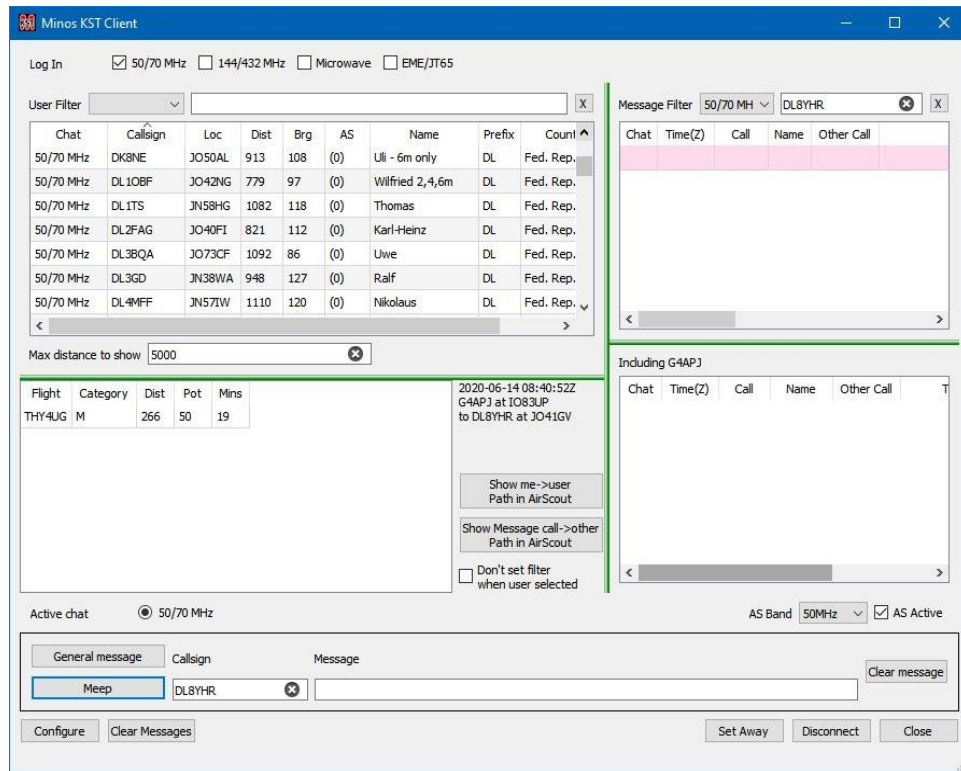

Figure 170 – Airscout operational in KST Client
Once the connection is established¹⁴⁴ additional information (AS) is displayed in the User panel (on the left), and a new panel appears bottom left (Figure 170).